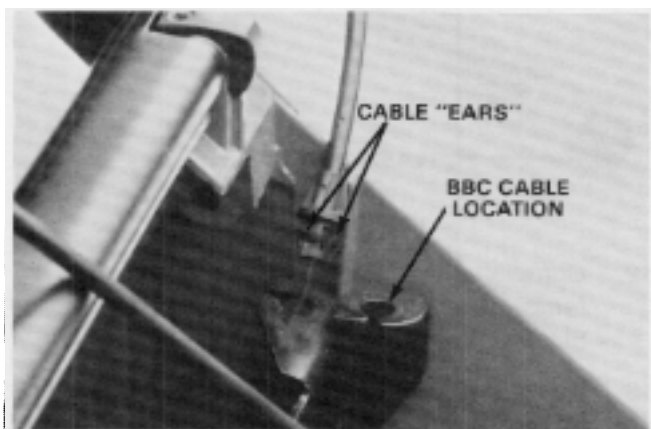

Figure 98
2. The end of the BBC cable sheath has two protruding ears that catch the underside of the cable bracket. Remove the cable by squeezing the ears together, then pulling the cable out vertically. See Figure 98.